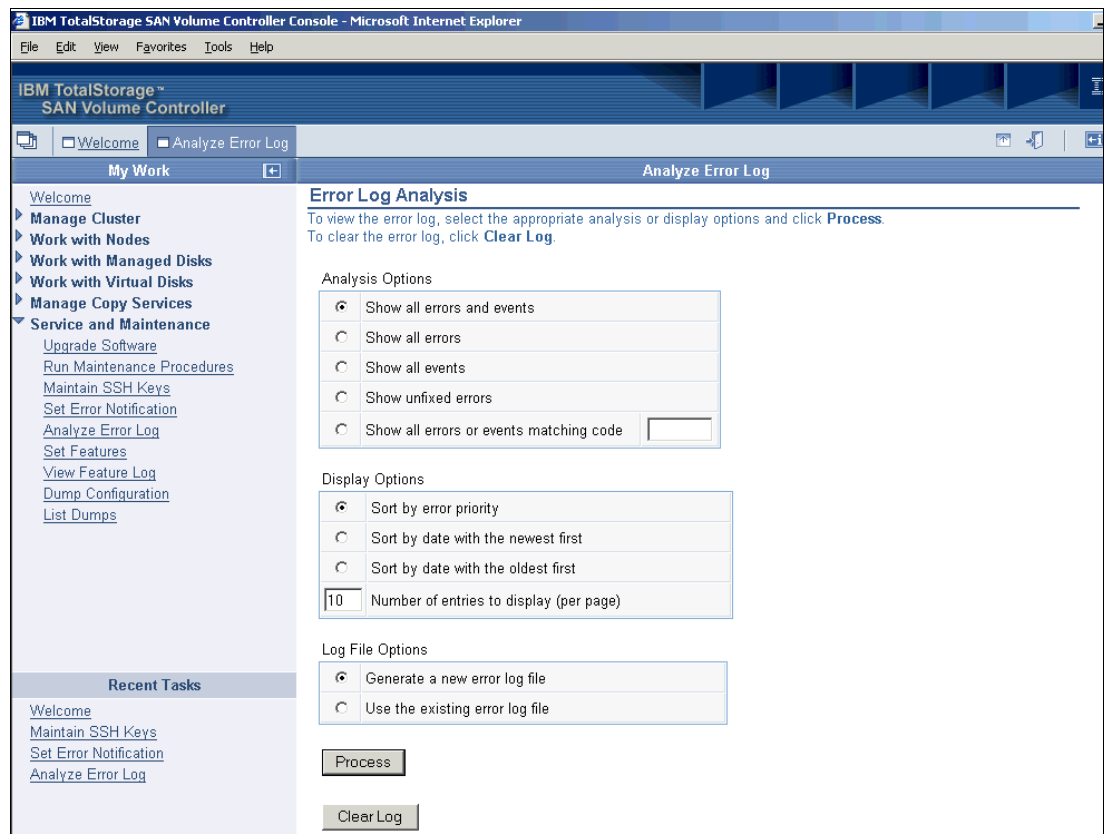

Figure 9-90 Analyzing the error log
2. From the Error Log Analysis panel (Figure 9-90), you can choose either the Process or Clear Log button.